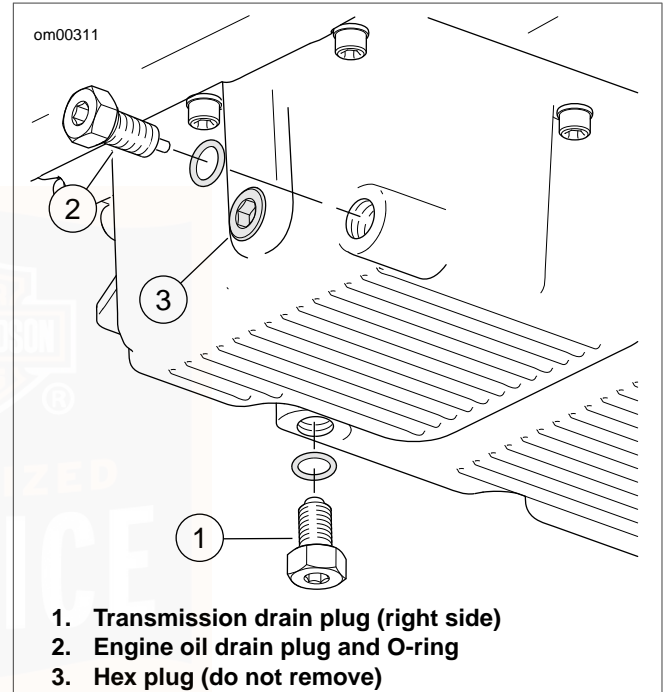

Figure 43. Oil Pan
3. See Figure 43. Remove the oil drain plug (2). Do not remove hex plug (3) or transmission drain plug (1). Allow oil to drain completely.
2. See Figure 43. Remove transmission drain plug (1) and drain lubricant into a suitable container.